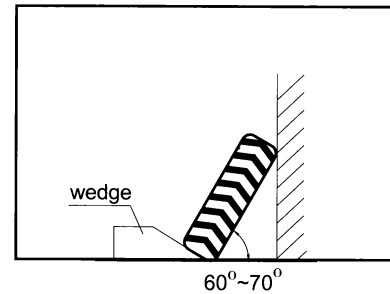

Figure 3-9
- If wheel tyre is to fall down, get away from it, since the tyres of construction machinery are very heavy, and any attempt to hold it by hand will incur serious injury. (Figure 3-9)